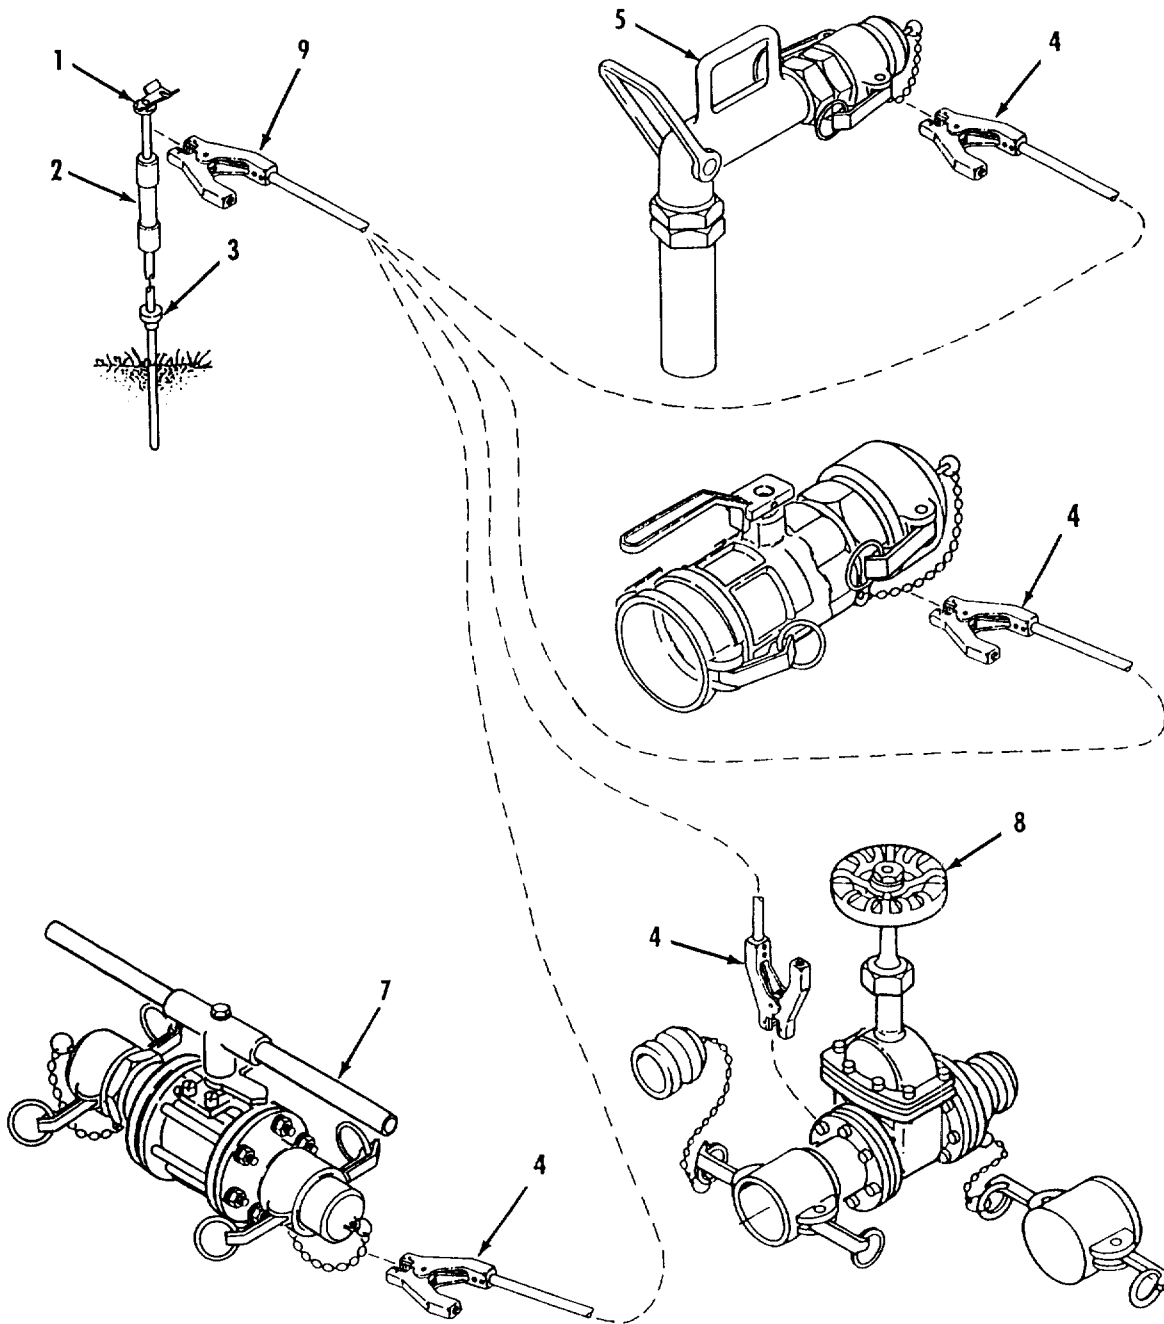

Figure 2-42. Fueling Point Ground Rod Removal (Typical).
- a. Fueling Point Ground Rod Removal (Typical). Refer to figure 2-42.